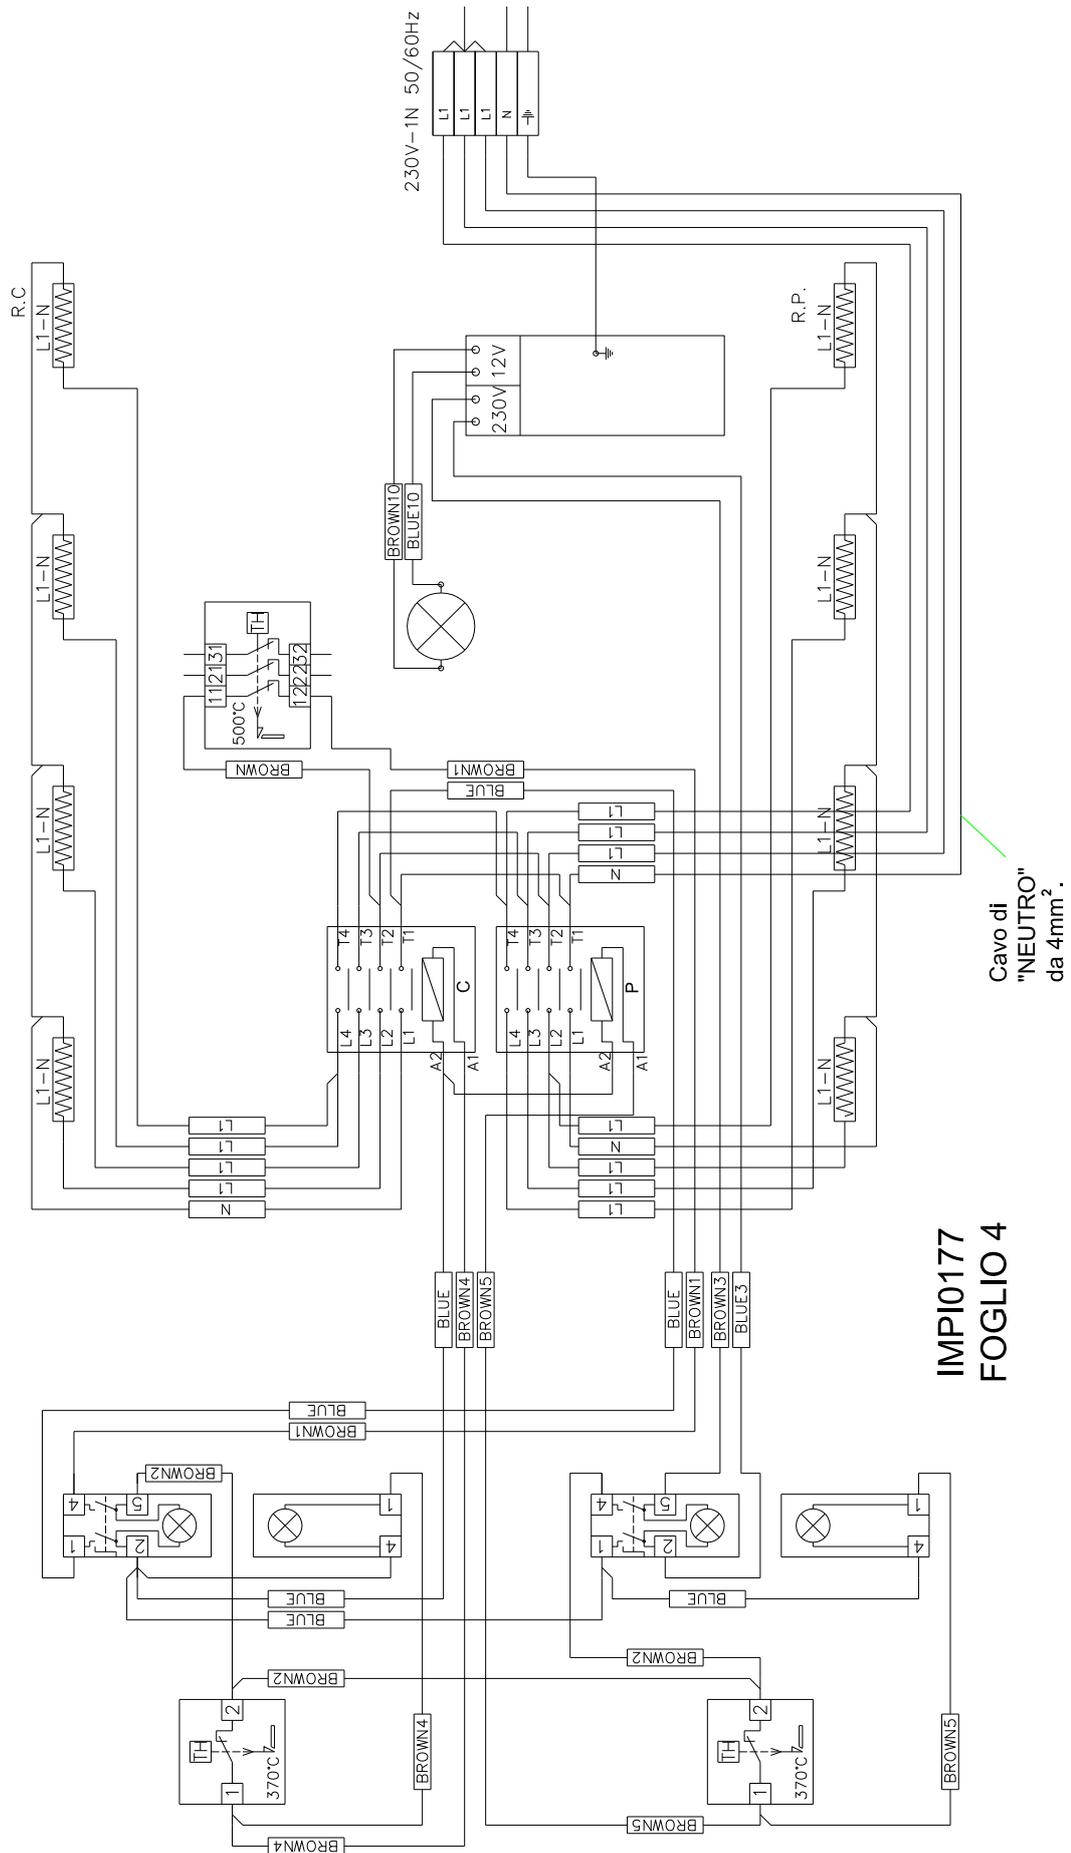

Fig. 8.3. Electrical diagram PEZ430, at 230 Vac. 1-N version.
N.B. For double chamber ovens PDZ430 version 230Vac 1-N, see paragraph 8.3 and Electrical diagram Fig.8.3.